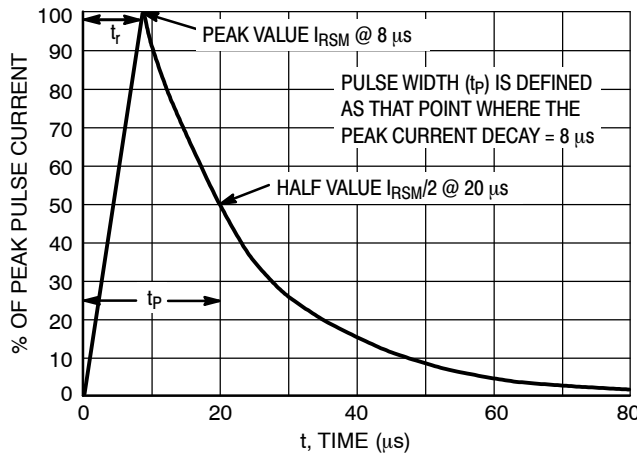

Figure 5. 8 X 20 μs Pulse Waveform
1. Non-repetitive current per Figure 5.
4. Surge current waveform per Figure 5.